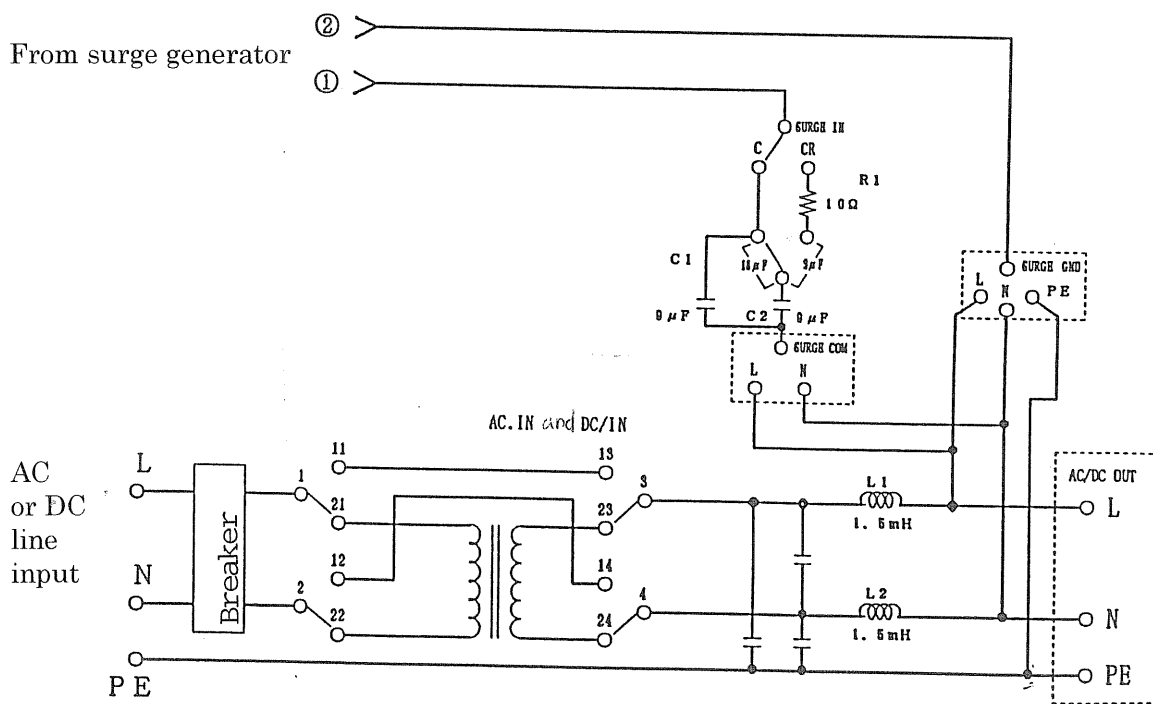

Fig. 2.6 Circuit diagram of AC/DC line injecting unit
■ Fig. 2.6 shows the circuit diagram of AC/DC line injecting unit.